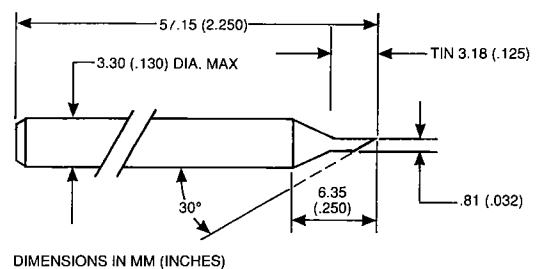

Figure 3
Because the heat absorption and storage mass behind the terminal board is smaller in EA (and smaller) microphones and ED (and smaller) receivers, we recommend the use of a smaller tip. Fig. 3 shows a commercially available tip which is suitable for use with these transducers. Sometimes, a slight bend in the tip may facilitate soldering.
- A 1/32" soldering tip, such as the one shown in Fig. 3 in soldering bulletin TB4. A slight bend in the tip may facilitate soldering.